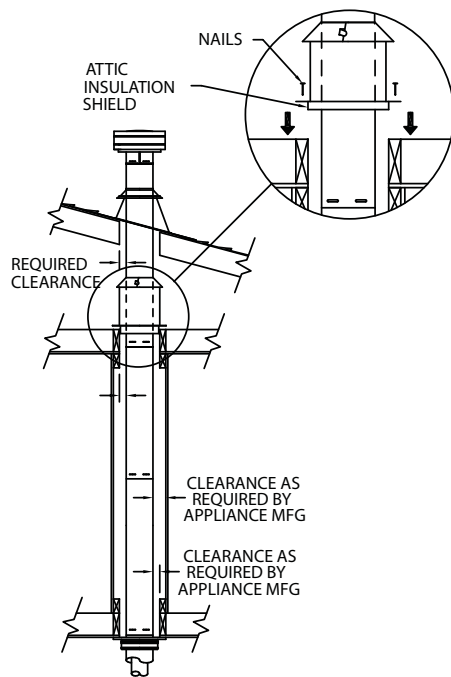

Figure 19
(1) For multi-story vertical installations, a Ceiling Firestop is required at the second floor, and any subsequent floors **(Fig. 19)**. Refer to **Table 1, page 8**. Cut and frame a square opening for installation of the Ceiling Firestop.
(2) If Vent passes through any occupied areas above the first floor, including closets and storage spaces, it must be enclosed. The enclosure may be framed and sheetrocked with standard construction materials, but required clearances to combustibles
(3) If venting system passes through an attic space the Attic Insulation Shield or a chase enclosure must be installed to prevent contact between Pipe Sections and the insulation or other debris. For the Attic Insulation Shield, nail the base to floor of attic and adjust shield for appropriate insulation level, then attach the collar at the top of assembly (**Fig. 19**). For a chase enclosure, it may be constructed out of sheetrock or similar building materials and framed around the support box or the pipe, maintaining the clearance to combustibles as required by the appliance manufacturer. For vaulted ceilings a chase enclosure must be constructed as the Attic Insulation Shield can not be installed.